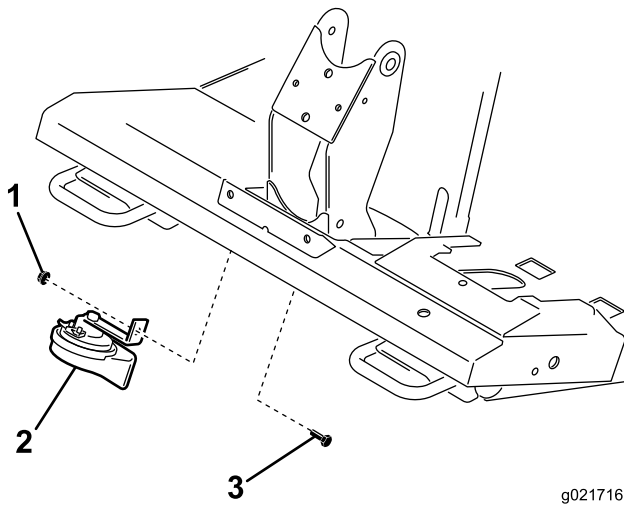

Figure 5
1. Install the horn bracket to the tab, under the platform, with a bolt (5/16 x 3/4 inch) and lock nut (3/8 inch) (Figure 5). Rotate the horn so it faces toward the back of the machine.